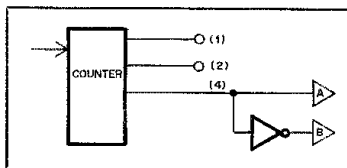

Fig. 3 — Origin of lines A and B in the AUTO-ID'ER.
But where do these lines A and B come from? They originate at the third address line (see Fig. 3). You will perceive that the output of the counter (4) will be on 0 on counts 0-3 and 1 on counts 4-7. Therefore, we'll call it line A. By the same token, when line A is inverted, it becomes line B. Thus, we have folded a 4-input DS into an 8-input DS.